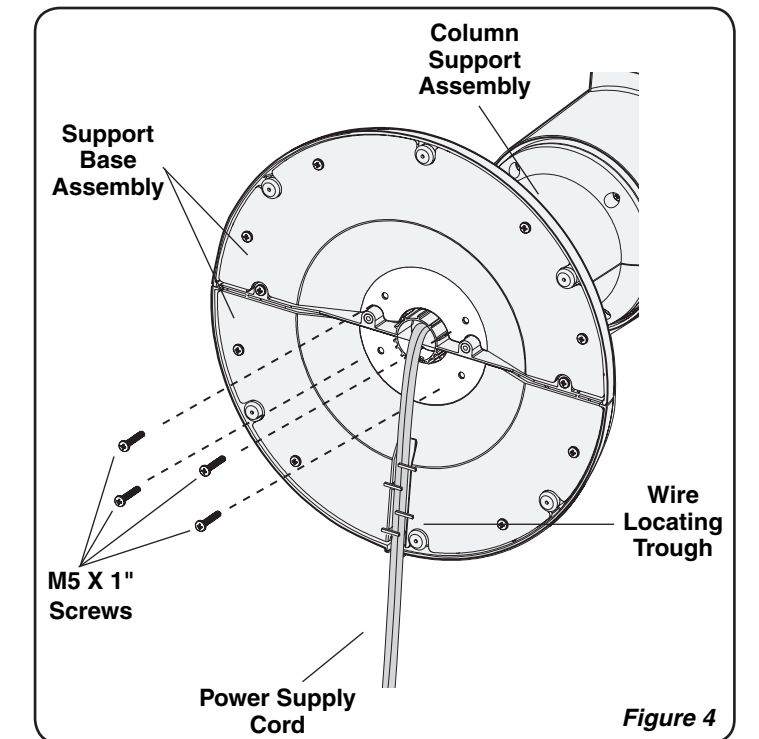

Figure 4
6. Align the **Support Base Assembly** with the **Column Support Assembly**, noting that the cord channel on the bottom of the support base should be toward the back of the Fan. Assemble the **Support Base Assembly** to the **Column Support Assembly** with (4) 1" Long **M5 Screws**. Gently pull any excess slack of the **Power Supply Cord** and place it in the **Wire Locating Trough**. (**Figure 4**)